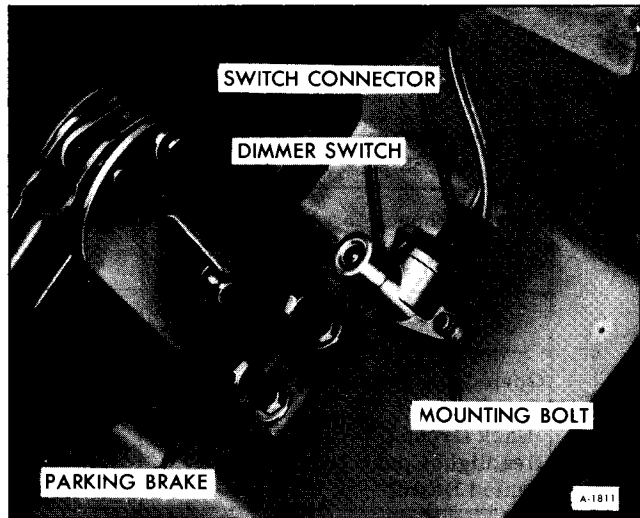

Figure 42—Dimmer Switch
The foot-operated dimmer switch (figure 42) is used to select headlight high or low beam. The switch is mounted on the left hand side of the drivers area floorboard and is operative when the headlights are illuminated. See Figure 41 for diagnosis details.
1. Fold back the carpeting or floor mat in the area of the switch (See figure 42).
4. Position the switch on the floor panel or toe-board area and attach with (2) screws. Re-position floor mat.